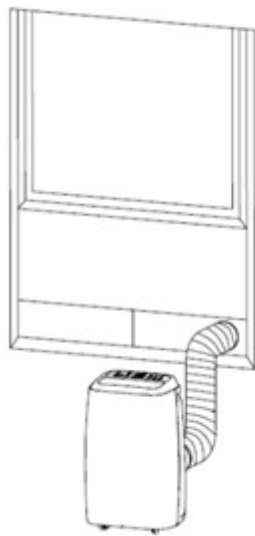
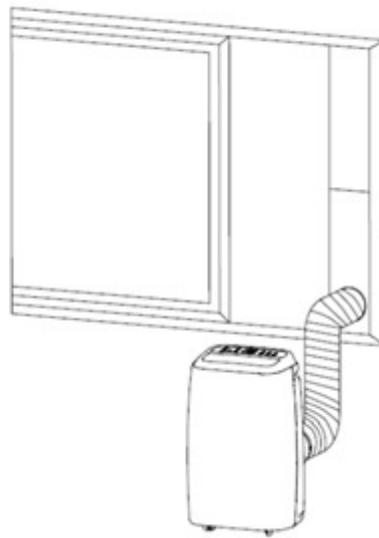

Fig 5c
Fig 5d
- 4) If using the supplied window kit Fig.5c and Fig 5d place the window kit slide plate either horizontally or vertically in the window aperture, attach exhaust hose window end connector to